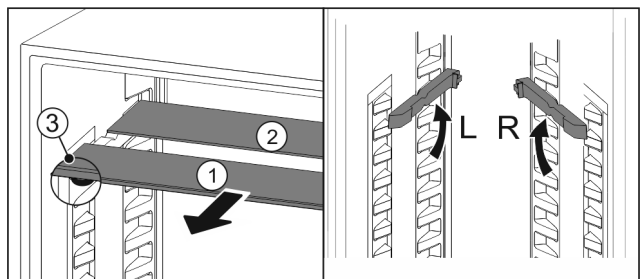

Fig. 84
- ▶ Pull the glass panels out Fig. 84 (1) from the front, one at a time.
- ▶ The glass panel Fig. 84 (1) and trim strip are at the front.
- ▶ The stops Fig. 84 (3) point down.